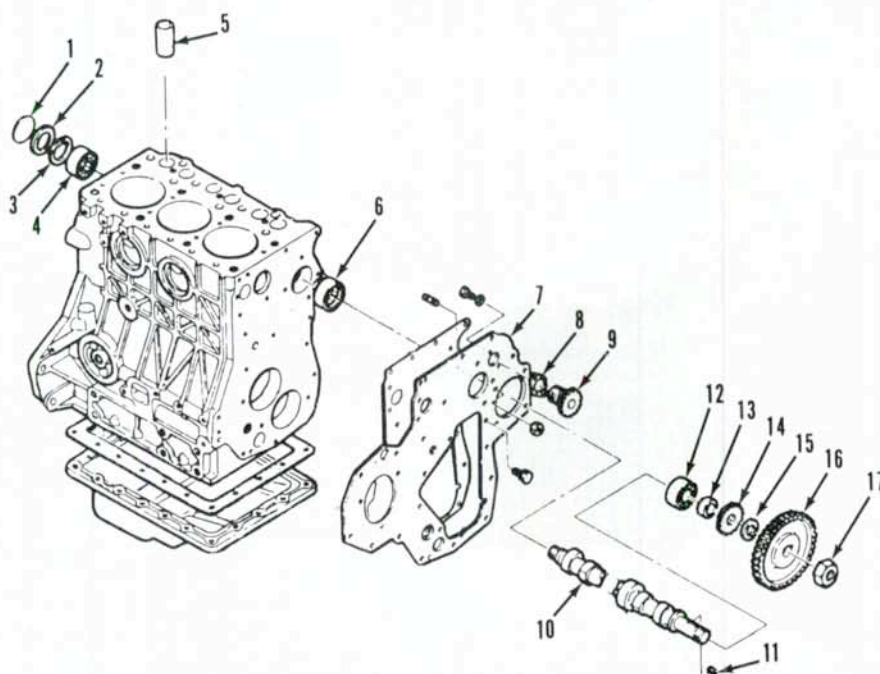

Fig. 69—Exploded view of camshaft and related components used on 1510 and 1710 models. Center bearing (6) is used on 1710 models.
39. The camshaft can be removed without separating the engine from transmission. However, if camshaft rear bearing (4-Fig. 69) is to be renewed, engine must be removed from tractor and clutch, flywheel and rear plate removed.